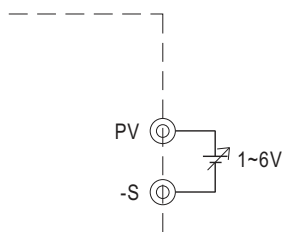

Fig. 3.1 Add on 1~6V external voltage
- (1) Connecting an external DC source between PV and -S on CN1 or CN2 that is shown in Fig. 3.1.